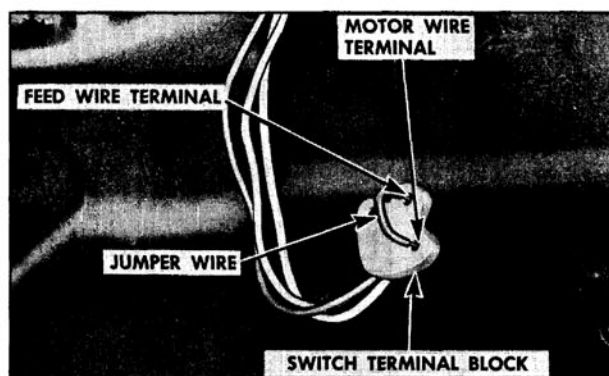

Fig. 16-411 Checking Window Control Switch
1. Insert one end of a No. 12 gauge jumper wire to the switch feed terminal and the other end to one of the motor lead terminals in the switch block. Repeat this check on the remaining motor lead terminal. (Fig. 16-411)
2. Insert one end of a No. 12 gauge jumper wire to the switch feed terminal and the other end to one of the motor lead terminals in the switch block. (Fig. 16-411)
2. Insert one end of a No. 12 gauge jumper wire in the switch feed terminal and the other end in one of the motor lead terminals of the switch block. (Fig. 16-411)